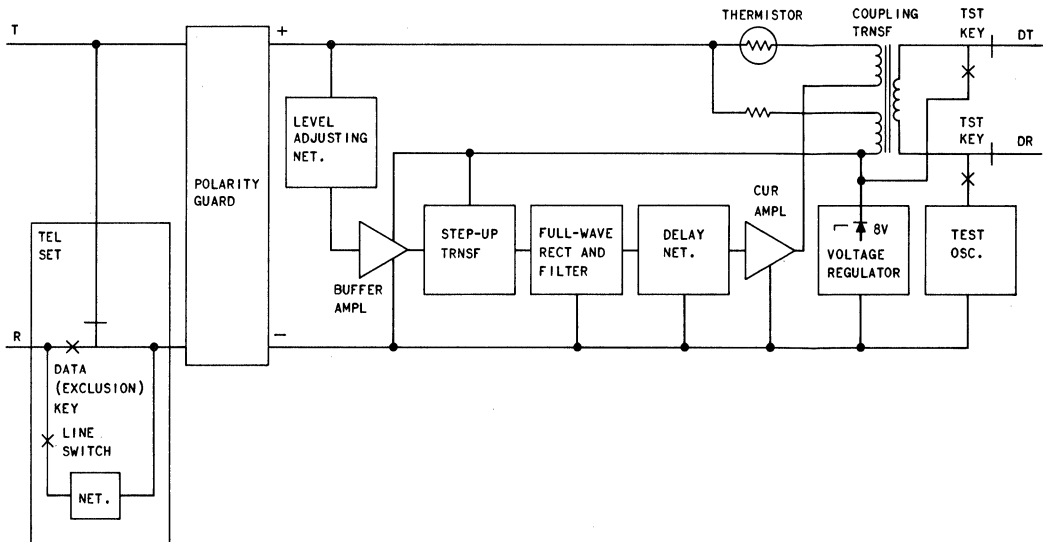

Fig. 2—1000A Data Coupler, Functional Schematic
2.11 The data coupler provides two modes of operation: a data mode and a test mode. A functional diagram of the coupler is shown in Fig. 2. The following describes the interconnecting effect between each functional block within the two operating modes.